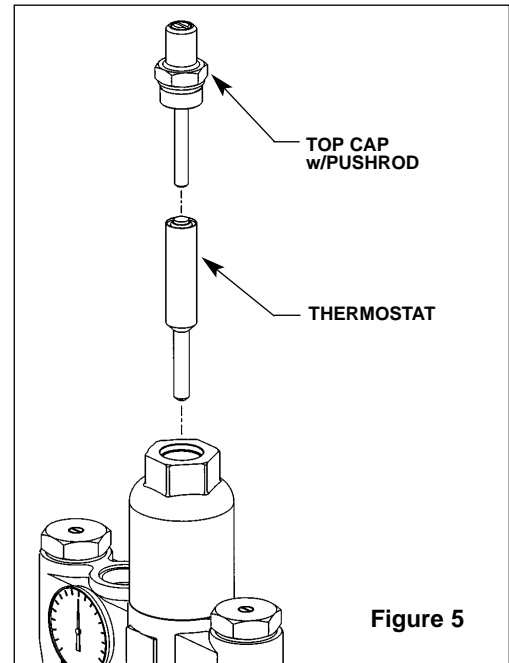

Figure 5
1. Remove the valve's top cap and pull out the push rod and then the thermostat (see Figure 5). You may use a needle-nose pliers to remove the thermostat from the valve body if desired.
1. Remove the top cap and pull out the push rod and thermostat (see Figure 5 on page 7).